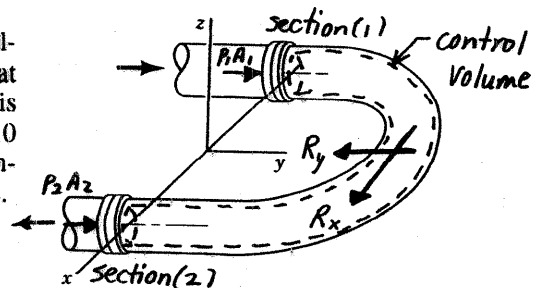

FIGURE P5.28
5.28 Water flows through a horizontal, 180° pipe bend as is illustrated in Fig. P5.28. The flow cross section area is constant at a value of 9000 mm². The flow velocity everywhere in the bend is 15 m/s. The pressures at the entrance and exit of the bend are 210 and 165 kPa, respectively. Calculate the horizontal (x and y) components of the anchoring force needed to hold the bend in place.